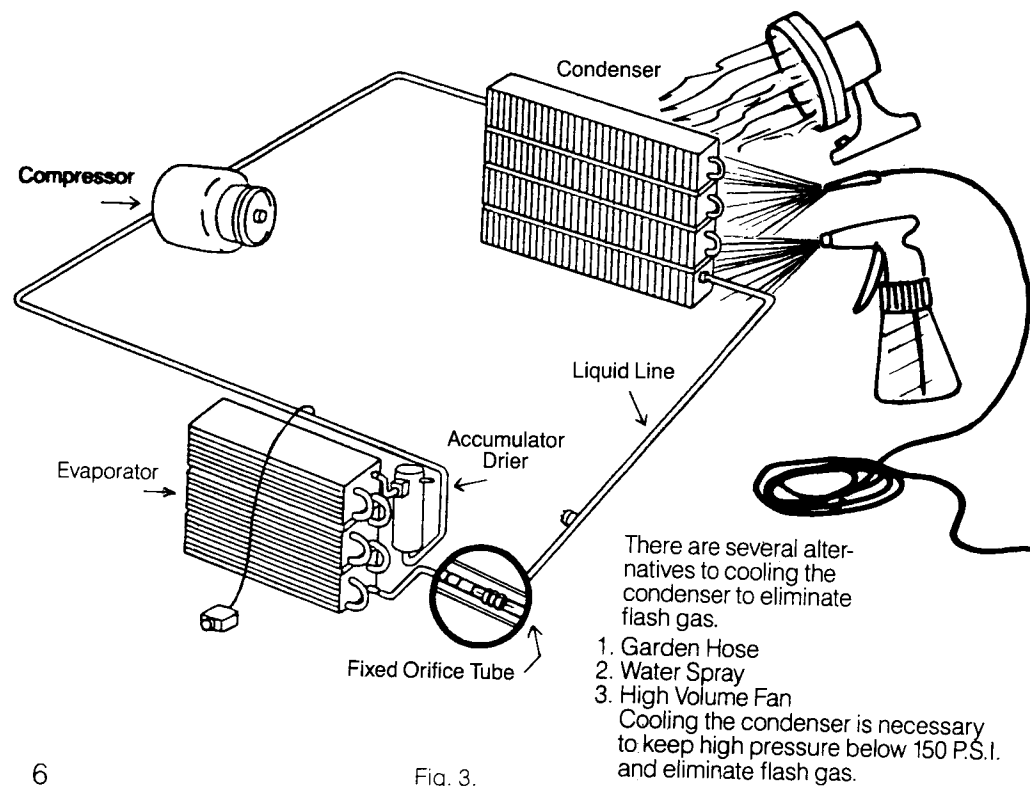

Fig. 3.
4. Spray condenser with water continuously before checking or charging system. (See Fig. 3 for water spraying method.) Instrument will signal either 2 second beeps or ringing.